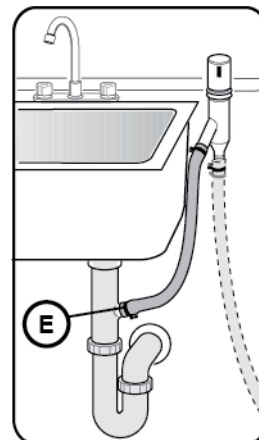

Figure 12
3. To the under sink dishwasher drain connection through an air gap, as shown in Figure 12.